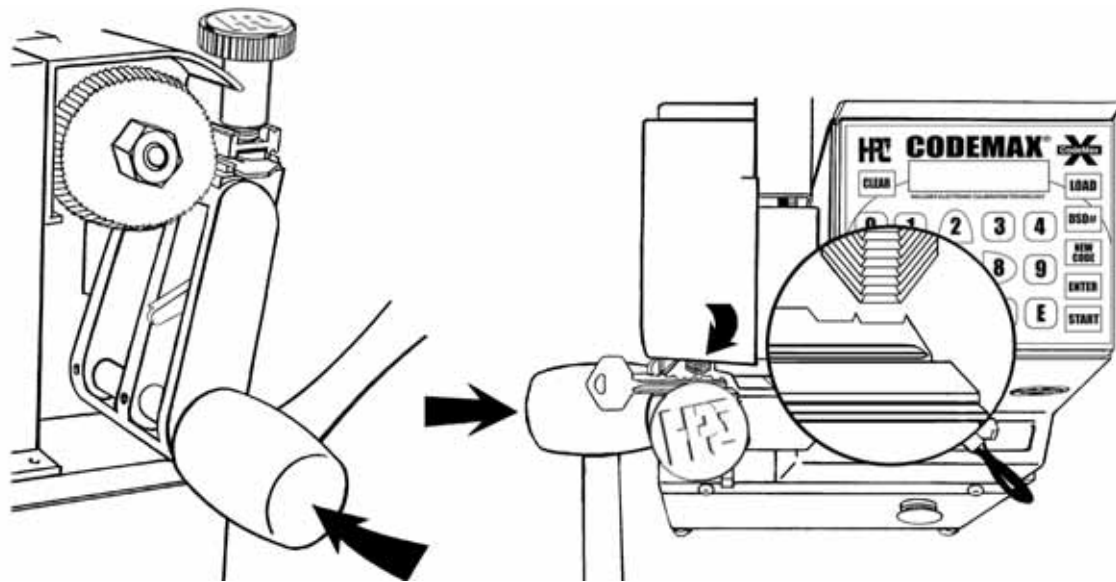
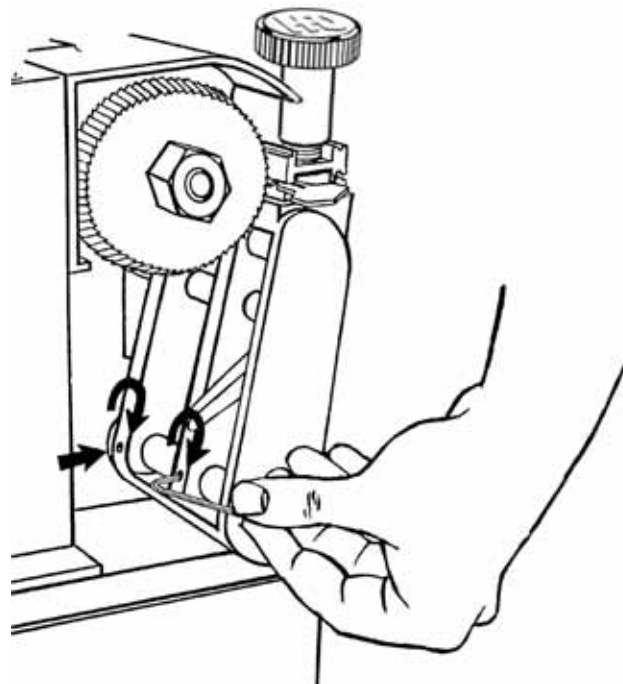

Fig. 2
Fig. 3
- 9) With a small rawhide or plastic mallet, lightly tap the lower, left side of the Pivot Arm until the pin seat of the cut is directly opposite the flat of the cutter (see Fig. 2). With the cutter aligned opposite the cut, retighten the set screws (see Fig. 3).